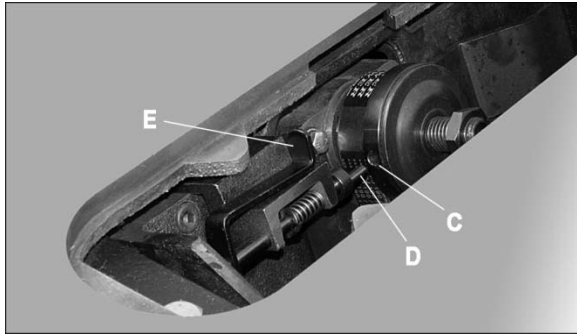

Figure 17
2. Remove nut (A) and flange (B), and install blade onto arbor, making sure the teeth point downward toward front of saw.
3. Install flange (B) and nut (A).
4. Rotate arbor until hole (C, Figure 17) aligns with arbor lock pin (D). Push tab (E) to seat pin into hole, and hold to prevent blade rotation.
5. Tighten nut (A) with arbor wrench.
6. Release arbor lock (E).